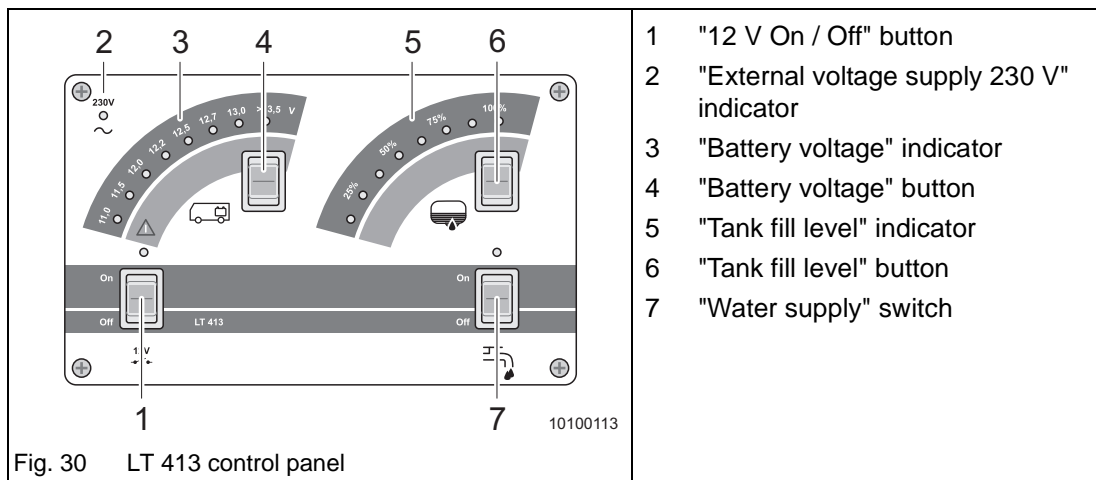

Fig. 30 LT 413 control panel
- ➔ Actuate the main switch of the onboard power supply (Fig. 30/1) to switch the supply voltage for all 12 V appliances on or off.
- ➔ Push down the button (Fig. 30/4) to indicate the charged condition of the living area battery. Actuating the button at the top has no effect.
- ➔ The "Battery voltage" (Fig. 30/3) indicator shows the charged condition of the living area battery.
The " External voltage supply 230 V 230 V" indicator (Fig. 30/2) is on.
- ➔ Push down the button (Fig. 30/6) to indicate the level of the water tank. Actuating the button at the top has no effect.
- ➔ The "Tank fill level" Indicator (Fig. 30/5) shows how much water is in the water tank.
- ➔ Press the "Water supply" switch (Fig. 30/7) to switch the supply voltage for the water pump on or off.